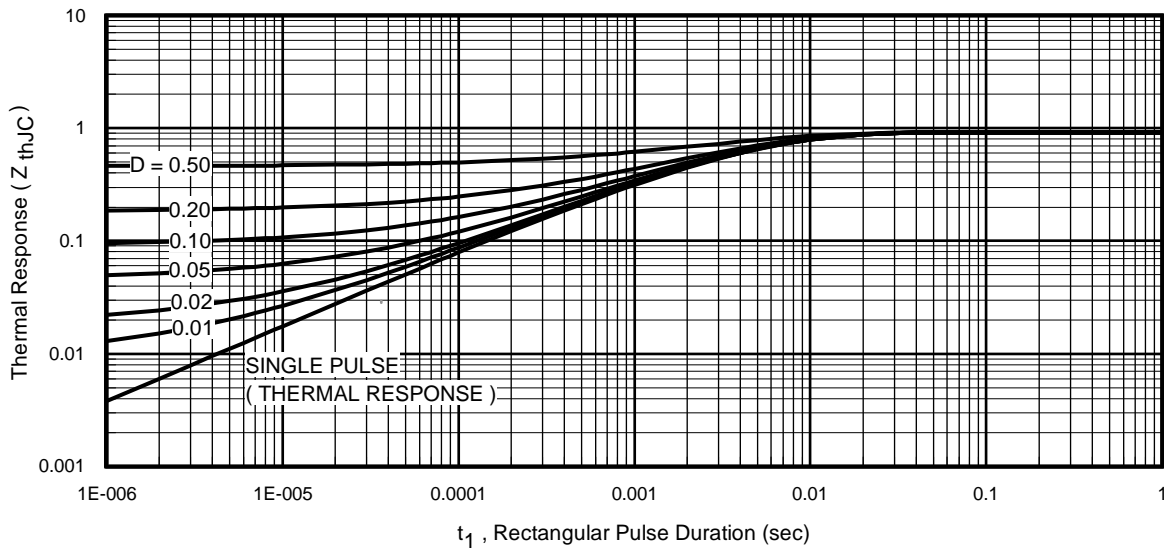
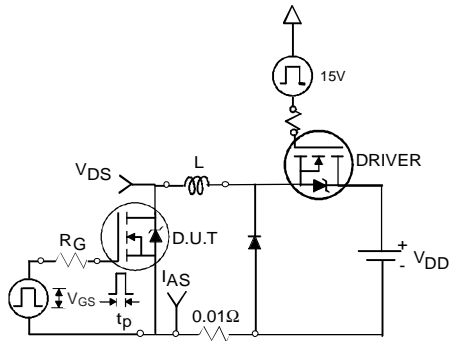

Fig 11. Maximum Effective Transient Thermal Impedance, Junction-to-Case
Fig 12a. Unclamped Inductive Test Circuit
| I _{AR} | Avalanche Current ④ | See Fig.12a,12b,15,16 | A |
- ① Repetitive rating; pulse width limited by max. junction temperature. (See fig. 11).
- ② Limited by T_{Jmax}, starting T_J = 25°C, L = 0.27mH, R_G = 25Ω, I_{AS} = 35A, V_{GS} = 10V. Part not recommended for use above this value.
- ③ I_{SD} ≤ 35A, di/dt ≤ 380A/μs, V_{DD} ≤ V_{(BR)DSS}, T_J ≤ 175°C.
- ④ Pulse width ≤ 1.0ms; duty cycle ≤ 2%.
- ⑤ C_{oss eff.} is a fixed capacitance that gives the same charging time as C_{oss} while V_{DS} is rising from 0 to 80% V_{DS}.
- ⑥ Limited by T_{Jmax}, see Fig.12a, 12b, 15, 16 for typical repetitive avalanche performance.
- ⑦ This value determined from sample failure population. 100% tested to this value in production.
- ⑧ This is applied to D²Pak, when mounted on 1" square PCB (FR-4 or G-10 Material). For recommended footprint and soldering techniques refer to application note #AN-994.
3. Equation below based on circuit and waveforms shown in Figures 12a, 12b.
$Z_{thJC}(D, t_{av})$ = Transient thermal resistance, see figure 11)